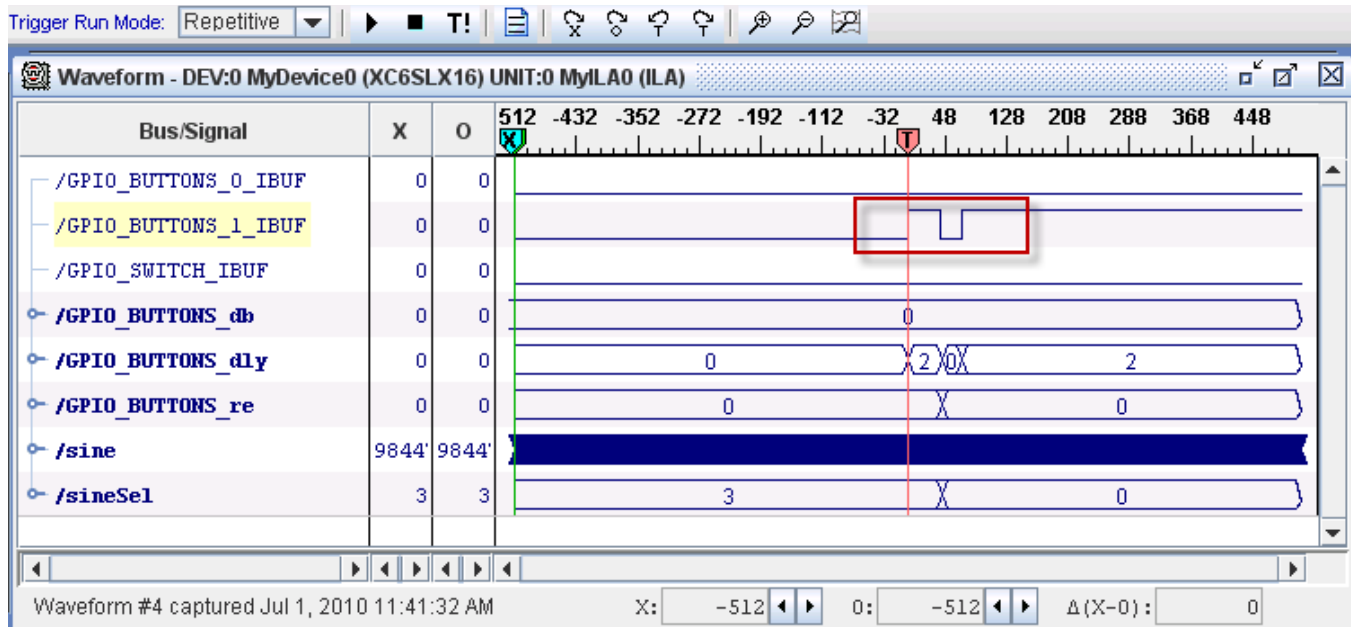

Figure 10: GPIO Buttons\_1\_re Signal Glitch
7. On the board, press the *Sine Wave Sequencer* button until you see multiple transitions on the `GPIO_BUTTONS_1_IBUF` signal. This is a visualization of the glitch that is occurring on the input. An example of the glitch is shown in Figure 10.